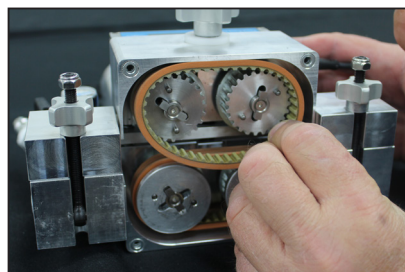

Figure 34.
- e. Remove belt and replace (Figure 34).